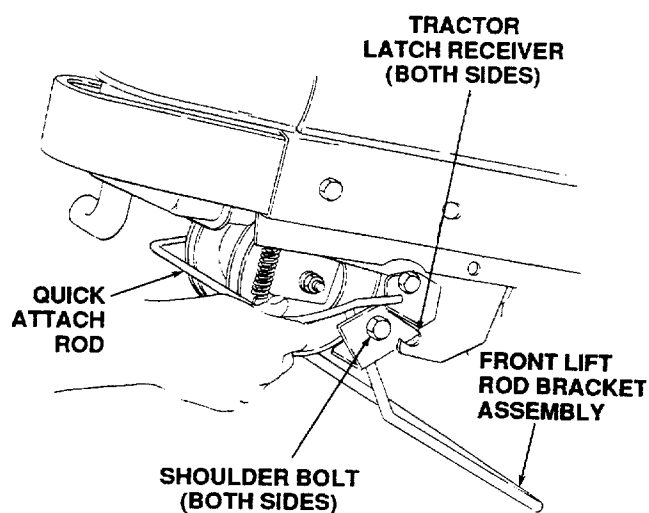

Figure 47
9. From the front of the tractor, push downward and hold the tractor quick-attach rod. Pull the front lift rod/bracket assembly forward to release the shoulder bolts on each side of the bracket from the left and right tractor latch receivers. Release the tractor quick-attach rod. Refer to Figure 47